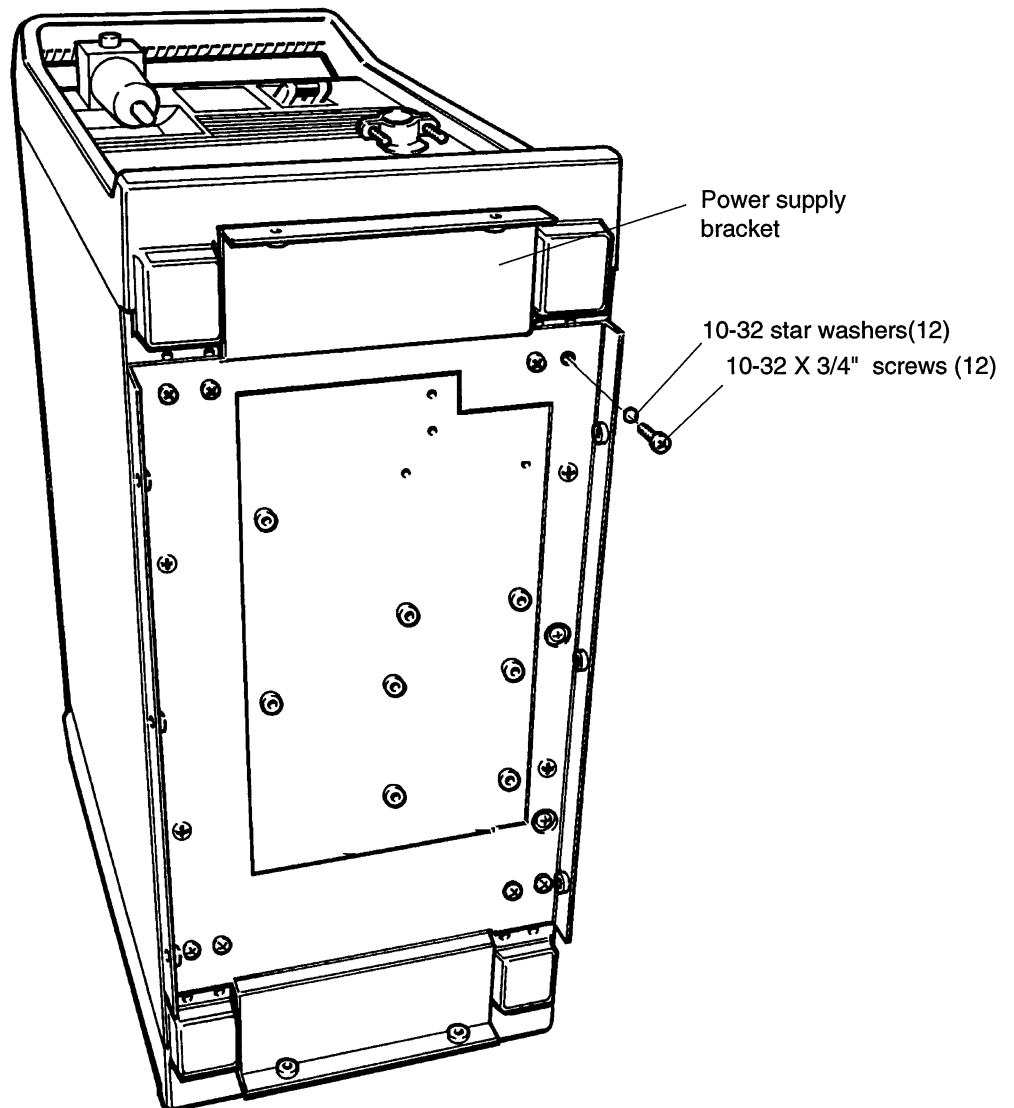

Figure 2-4 Attaching 600V Power Supply Bracket to Powermax1100 Chassis
4. Lay down a cloth or towel in front of the Powermax1100 and carefully tilt Powermax1100 over onto its front handle as shown in Figure 2-4.
5. Place the power supply bracket against the bottom of the power supply as shown in Figure 2-4 and fasten with 10-32 X 3/4" screws and star washers in 12 locations.